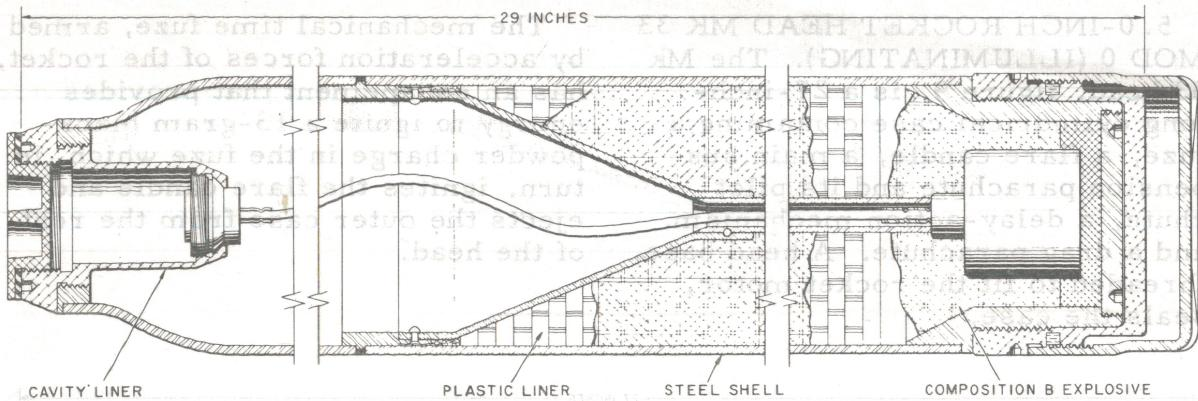

Figure 7 - 5.0-Inch Rocket Head Mk 32 Mod 0 (ATAP).
**32 MOD 0 (ATAP).** The Mk 32 Mod 0 rocket head, anti-tank, anti-personnel (ATAP), similar to the HVAR Rocket Head Mk 25 Mod 0, is shown in figure 7. The head is 29 inches long, its steel shell is 1/8-inch thick, and its weight with fuze is 48 pounds, of which 15 pounds is high-explosive Composition B. Containing a plastic liner to control fragmentation, the head emits, upon detonation, more than 2000 high-speed, 1/4-inch-square fragments. Field tests of this head have shown capability sufficient to damage vehicles from a miss-distance as great as 70 feet from the target.